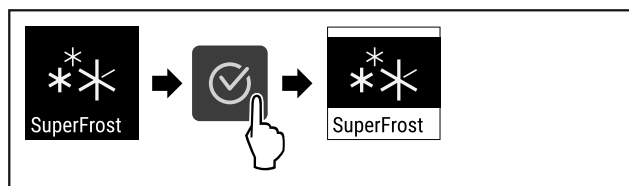

Fig. 64
- Complete steps (see Fig. 64) .